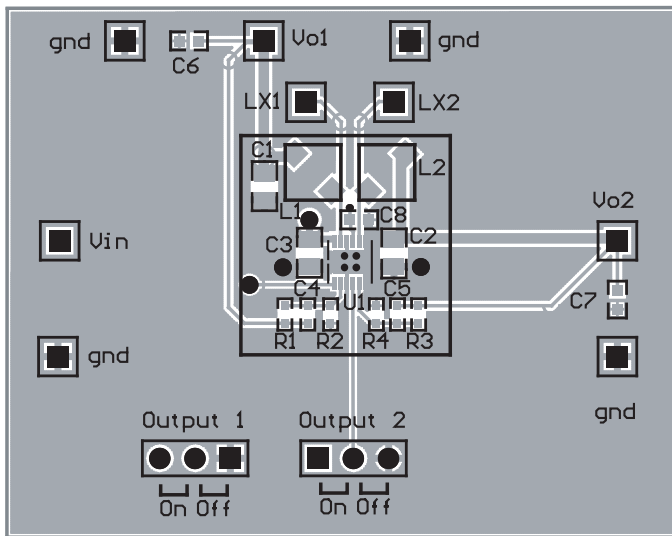

Figure 2: AAT2515 Evaluation Board Top Side.
1. Due to the pin placement of V_{IN} for both converters, proper decoupling is not possible with just one input capacitor. The large input capacitor C3 should connect as closely as possible to V_{IN} and GND, as shown in Figure 2. The additional input bypass capacitor C8 is necessary for proper high frequency decoupling of the second converter.